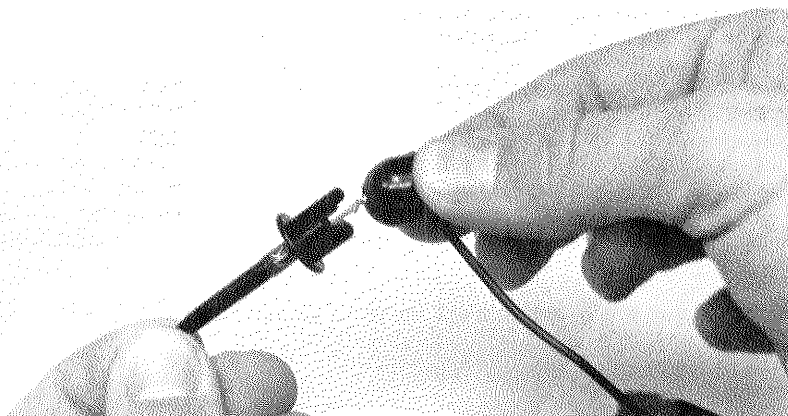

Fig. 39 — A broken UA lead can easily be repaired.
3. Open the E-Z Hook* by pulling the ball straight off the back of the connector. (See Figure 39.)